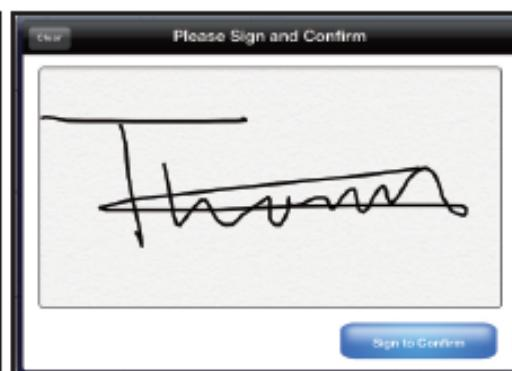

Fig. 5.8 Signature
- ② **Doctor confirm:** Sign your name to confirm the diagnosis. The signature is kept for printing and email(See Fig.5.8).